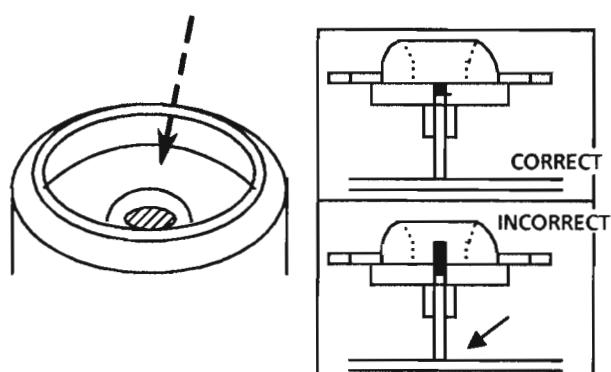

Fig. 9
4. After inserting the turntable , bond the motor shaft and turntable together (at the section marked by an arrow in fig. 9 on the left below).
5. Use "LOCKTITE" #460 bonding agent, and apply as little as possible . Take care not to allow any excess bonding agent to get onto the turntable . Be extremely careful not to allow bonding agent to adhere to the motor bearings (the section marked by an arrow in fig. 9 on the right).